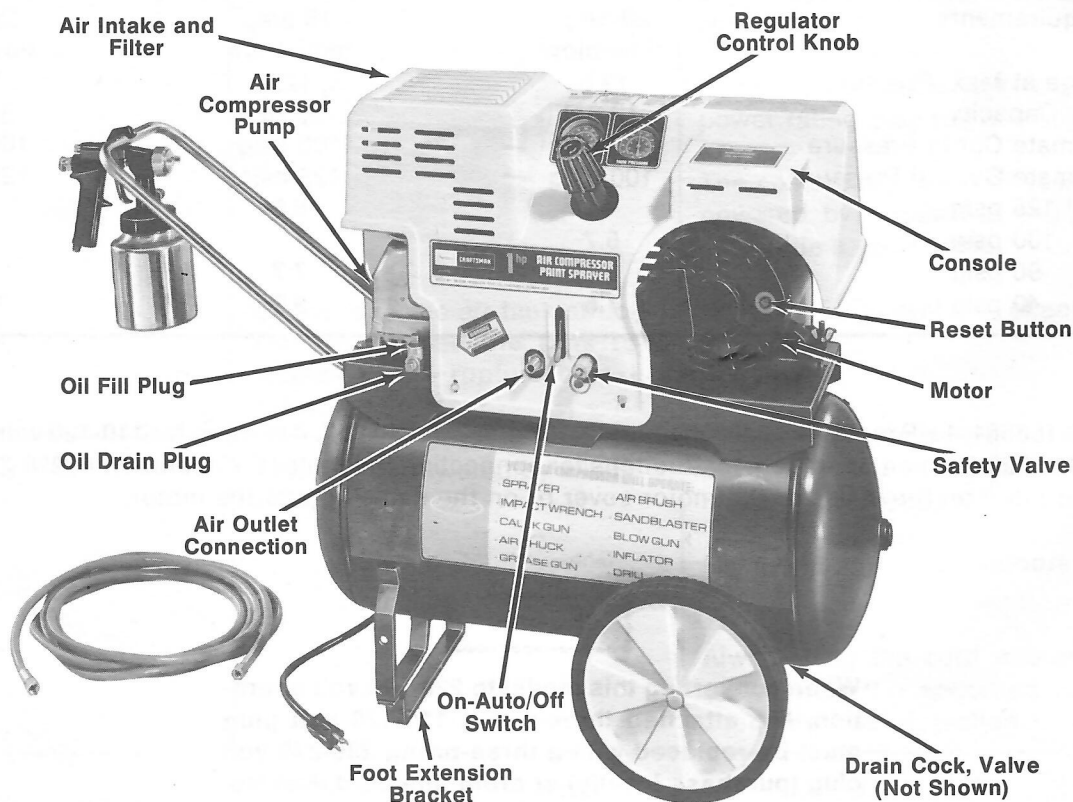

Figure 1
Place unit on a level surface. Remove oil fill plug (46) and slowly add 20 weight detergent or nondetergent type oil until it is even with the top of the oil fill hole. Other oil such as 10W30 premium oil is acceptable. (It takes 16 fluid ounces to fill the crankcase.) Replace oil fill plug (46). Plug the compressor into the correct power source. Start the compressor by switching the ON-AUTO/OFF switch (28) to the ON-AUTO position. Turn the control knob assembly (15) clockwise fully to permit air to escape and prevent air pressure buildup in the air tank. RUN THE COMPRESSOR 30 MINUTES IN THIS MANNER TO LUBRICATE PISTONS AND BEARINGS. Shut off air with regulator adjusting knob (turn counterclockwise) and the unit is ready for use. Connect the air hose to the air outlet connection (29) located on the front of the console. Refer to Figure 1.
The motor has a thermal overload protector. If the motor overheats for any reason, the overload protector will shut off the motor. The motor must be allowed to cool before restarting. Turn the ON-AUTO/OFF switch to the OFF position. To restart, turn the ON-AUTO/OFF switch to the ON position. Depress the reset button located on the end of the motor. Refer to figure 1.
A dirty air intake filter will not allow the compressor to operate at full capacity. When the intake filter becomes dirty, oily, or covered with paint overspray, replace it. Do not operate the compressor with the air intake filter removed. To replace the filter, use needle nosed pliers and pull or pry the old filter out. Replace with new. Refer to figure 1.
Water should be drained from the air tank periodically depending on where and how often the outfit has been used. If humidity is high, drain more often. To drain the water that has gathered in the air tank, open drain cock valve (38, figure 1) and allow to drain. When empty, close the valve tightly before operating the compressor.